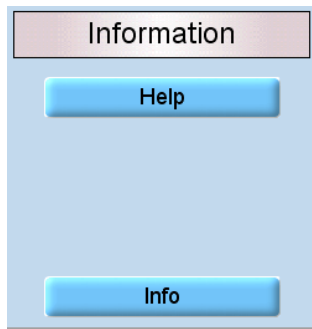

Figure 92
**Info:** Shows information such as serial number and software version (Figure 92).